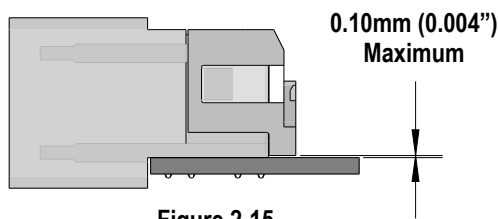

Figure 2-15
- Using the application tool and an appropriate press, seat the power module until there is less than 0.10mm (.004 in) clearance between the bottom of the plastic housing and the surface of the printed circuit board. See Figure 2-15.